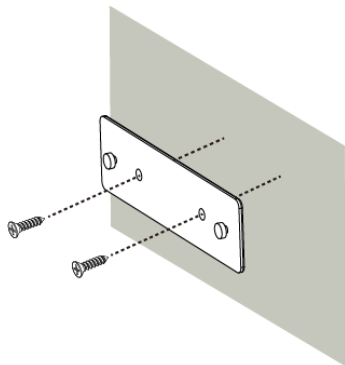

FIG. 1
**Step 1** Use the two mounting holes on the mounting bracket to mount and screw the mounting bracket onto the wall (FIG. 1).